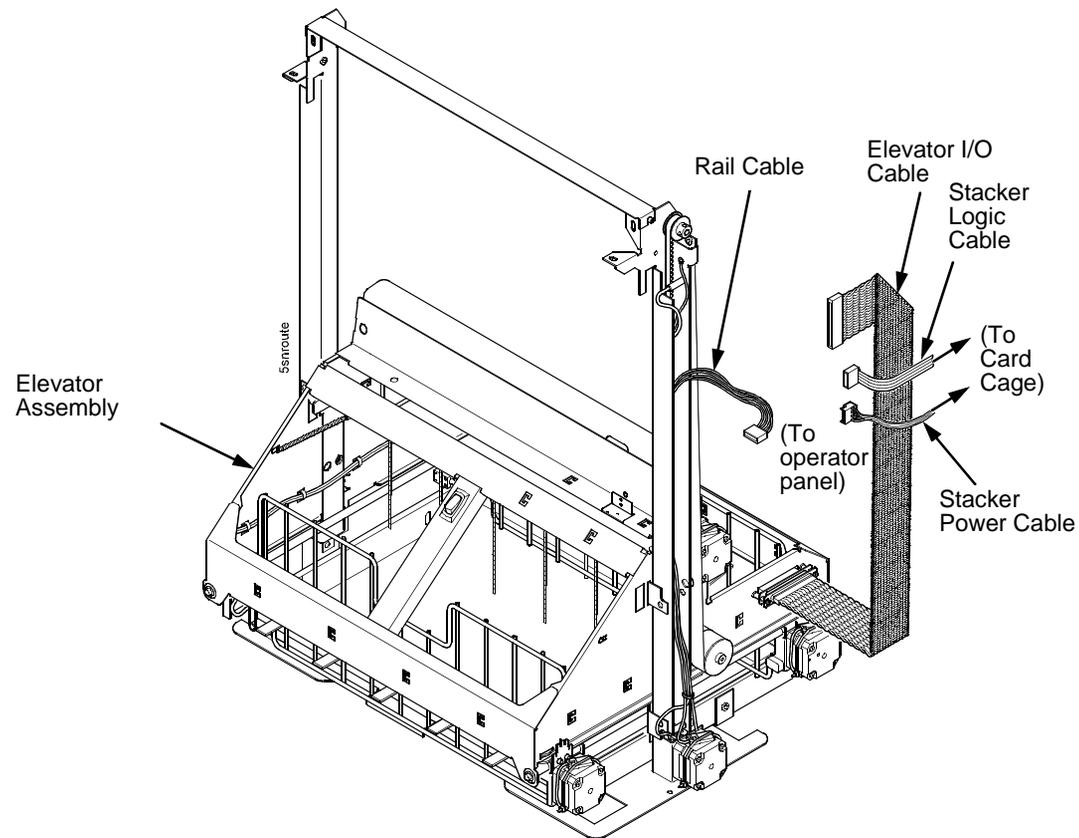

Figure 91. Route the Stacker Cables from the Elevator and Frame Rail to the Card Cage
20. Gather the stacker rail cable, elevator I/O cable, logic cable, and power cable. Route the cables outboard of the elevator assembly. (Figure 91.)